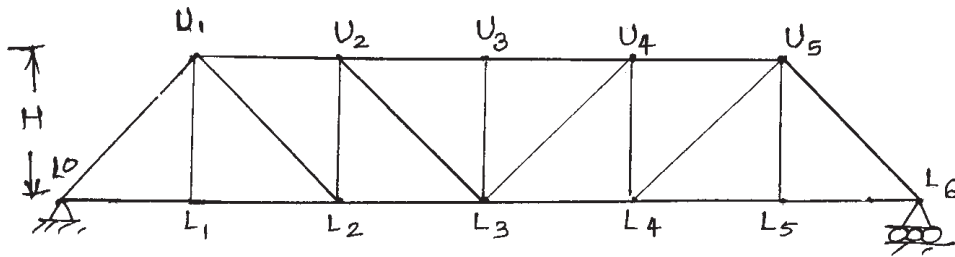

Fig 6 : 6 panels 4 m each = 24m
b) The truss is as shown in figure. 6. It has to support a single line mainline broad gauge track, assuming suitable height for minimum compulsory clearance
- Q7)** For the truss as shown in fig.6 and for equivalent uniformly distributed load.